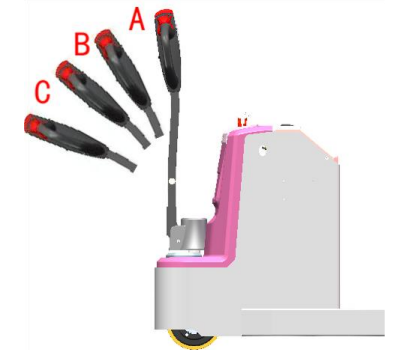

Figure5-2
5.1.3 Check whether the vehicle braking is normal; check whether the vehicle's lifting, lowering, and forward/reverse travel operations are normal; check whether the vehicle's emergency reverse operation is normal. The method is shown in Figure 5-2:
Move the control handle to zone A or C as shown in Figure 5-2, press the lift/lower button on the control handle, and observe whether the fork lifts and lowers normally.
Then move the control handle to zone B as shown in Figure 5-2, slowly start the vehicle, press the handle down to the horizontal position, and observe whether the vehicle can travel and brake normally.
Move the control handle to zone B as shown in Figure 5-2, press the emergency reverse switch button on the top of the control handle, and observe whether the vehicle can travel forward. Through the above checks, if the vehicle is fault-free, it can be put into use. If any fault is found, please repair it immediately. The use of faulty vehicles is strictly prohibited.